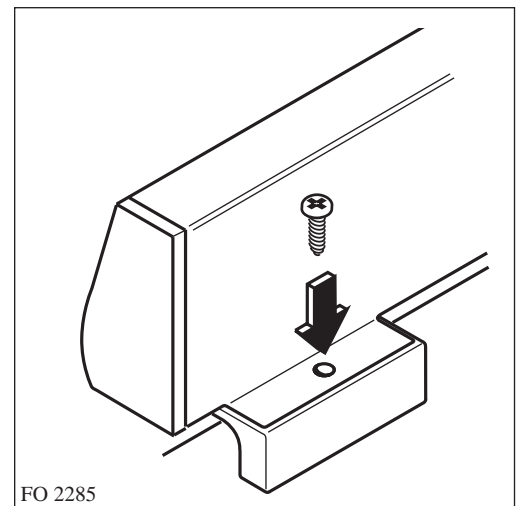

Fig. 6
6. Fix the splash back with the supplied screws (Fig. 6).